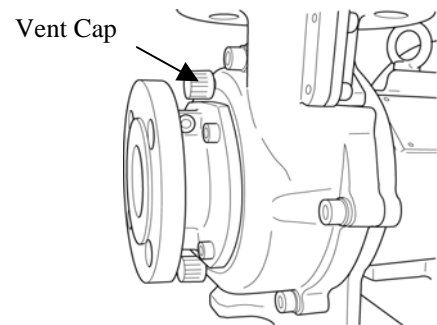

Figure 7
1. Remove the drain and vent caps (122.1) to discharge the liquid from the pump. Flush the inside of the pump with a neutralizing fluid. [Fig. 7]